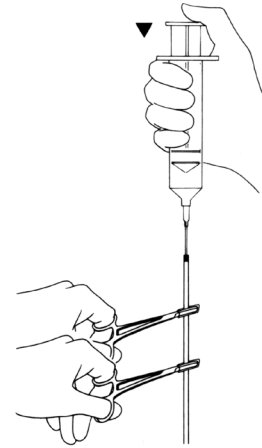

Figure 4-4e. Clamp Cuff
11. With the air and fluid removed and cuff completely empty, use two tubing-shod mosquito hemostats to double-clamp cuff tubing (one notch only) 3 cm below needle and again 3 cm below first hemostat. **(Figure 4-4e)**